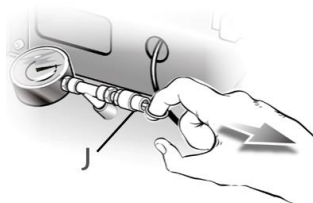

Fig. 1
2. Pull the ring on the safety valve (J) to reduce the air pressure in the tank to 30 PSI (Fig. 1).